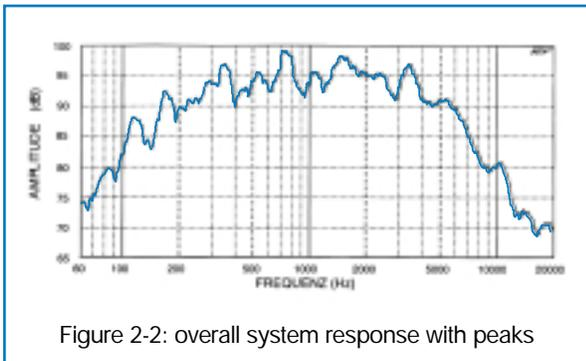

Figure 2-2: overall system response with peaks
6. Reduce gain at feedback frequencies using notch filters (narrow equalizer filters). Expect an increase in gain-before-feedback from 3 to 9 dB. Narrow peaks in the overall frequency response of the sound system are the first to cause feedback. These peaks rise 2 to 10 dB above the overall system response and prevent the system from reaching its maximum potential acoustic gain. (See Figure 2-2.) This technique can be done with a manual equalizer (and the appropriate measurement tools) or a feedback reducer. A digital feedback reducer can detect feedback and insert a notch filter at the exact offending frequency, which effectively flattens the sound system's frequency response and allows it to reach its maximum possible gain-before-feedback.